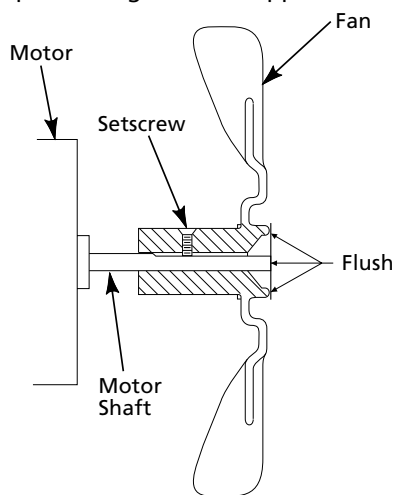

Figure 9 - Fan Cross Section
6. Replace fan on motor shaft. Place fan hub flush with end of motor shaft (See Figure 9).